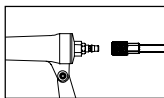

Fig. 2
2. Attach a high flow quick connect fitting to the tool. (See Fig. 2)